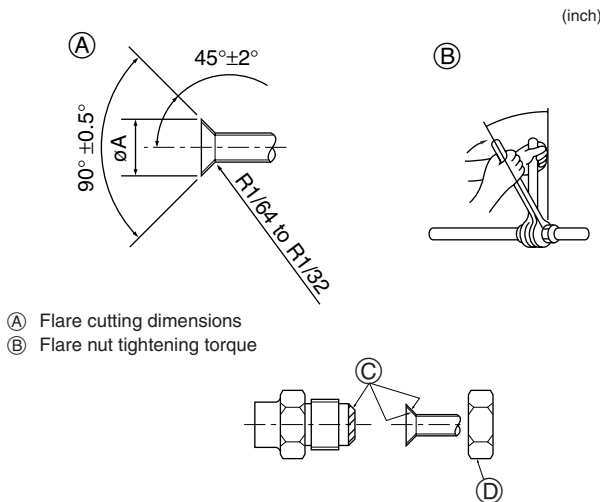

Fig. 4-1
### 4.2. Connecting pipes (Fig. 4-1)
(A) (Fig. 4-1)
(B) (Fig. 4-1)